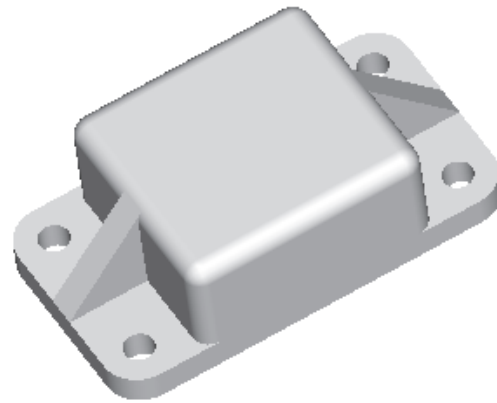

Figure 6-42 Model after mirroring the rib
- g. The sixth feature is the mirror copy of the rib feature, see Figure 6-42.
A copy of the rib feature will be created as shown in Figure 6-42. This copy feature is the sixth feature of the model. The other method to create the same is to create the sketch of the rib feature on a sketching plane. But this method will consume a lot of time. Therefore, the rib feature will be copied about the **RIGHT** datum plane.
4. Select the **RIGHT** datum plane as the mirror plane. The selected feature is mirrored about the **RIGHT** datum plane as shown in Figure 6-42.